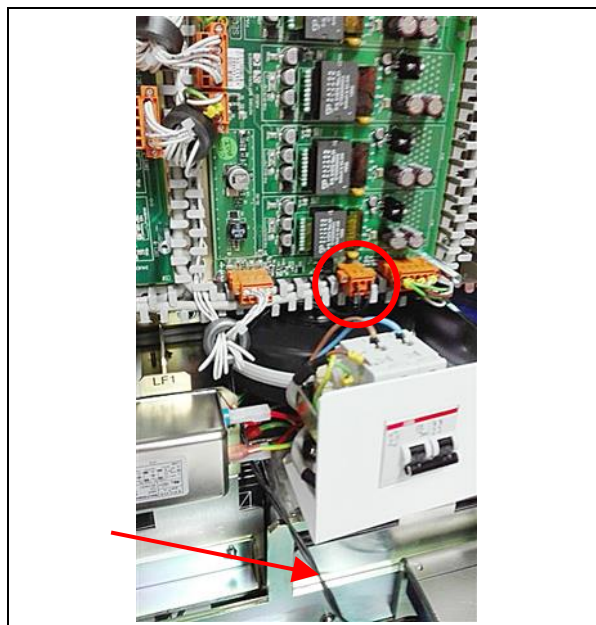

Figure 7
- (5) Route the cable from the discharge resistor to the Motor Battery Charger board A3532-06 Rev. C according to Figure 7.
- (6) Plug the connector to J6 (red circle) of the Inverter Motor Battery Charger board.
- (7) Mount the generator covers (section 3.4).